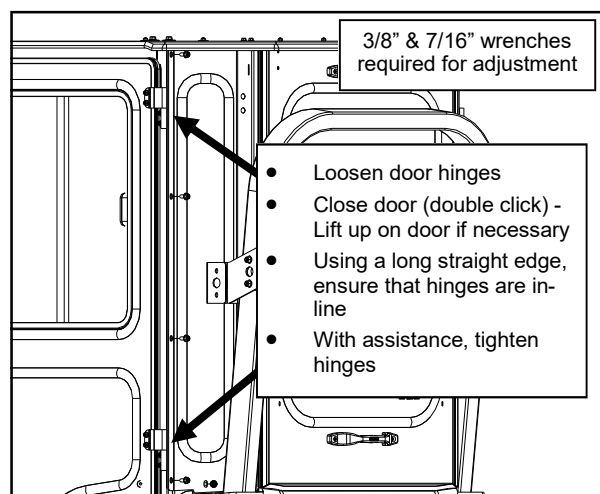

Fig. 17.3c (Door Hinge Adjustment)
- Adjust the hinges located at the rear of the door - See Fig. 17.3c